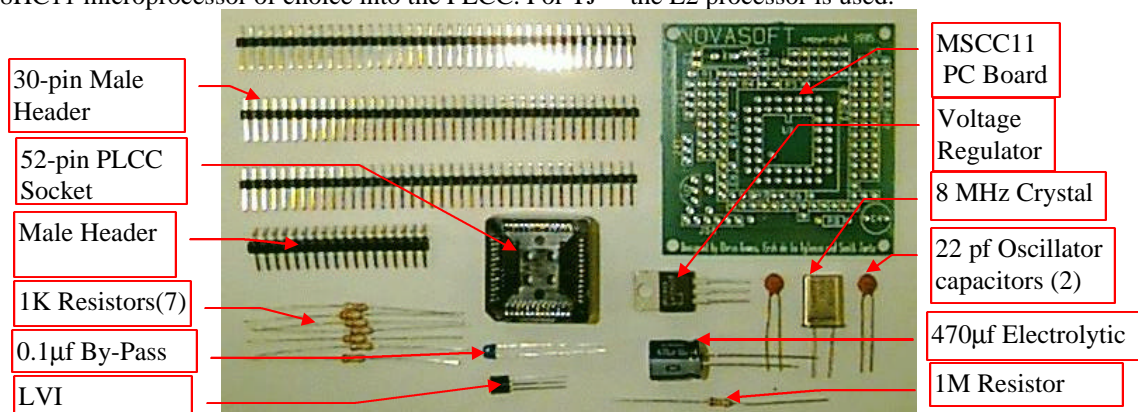
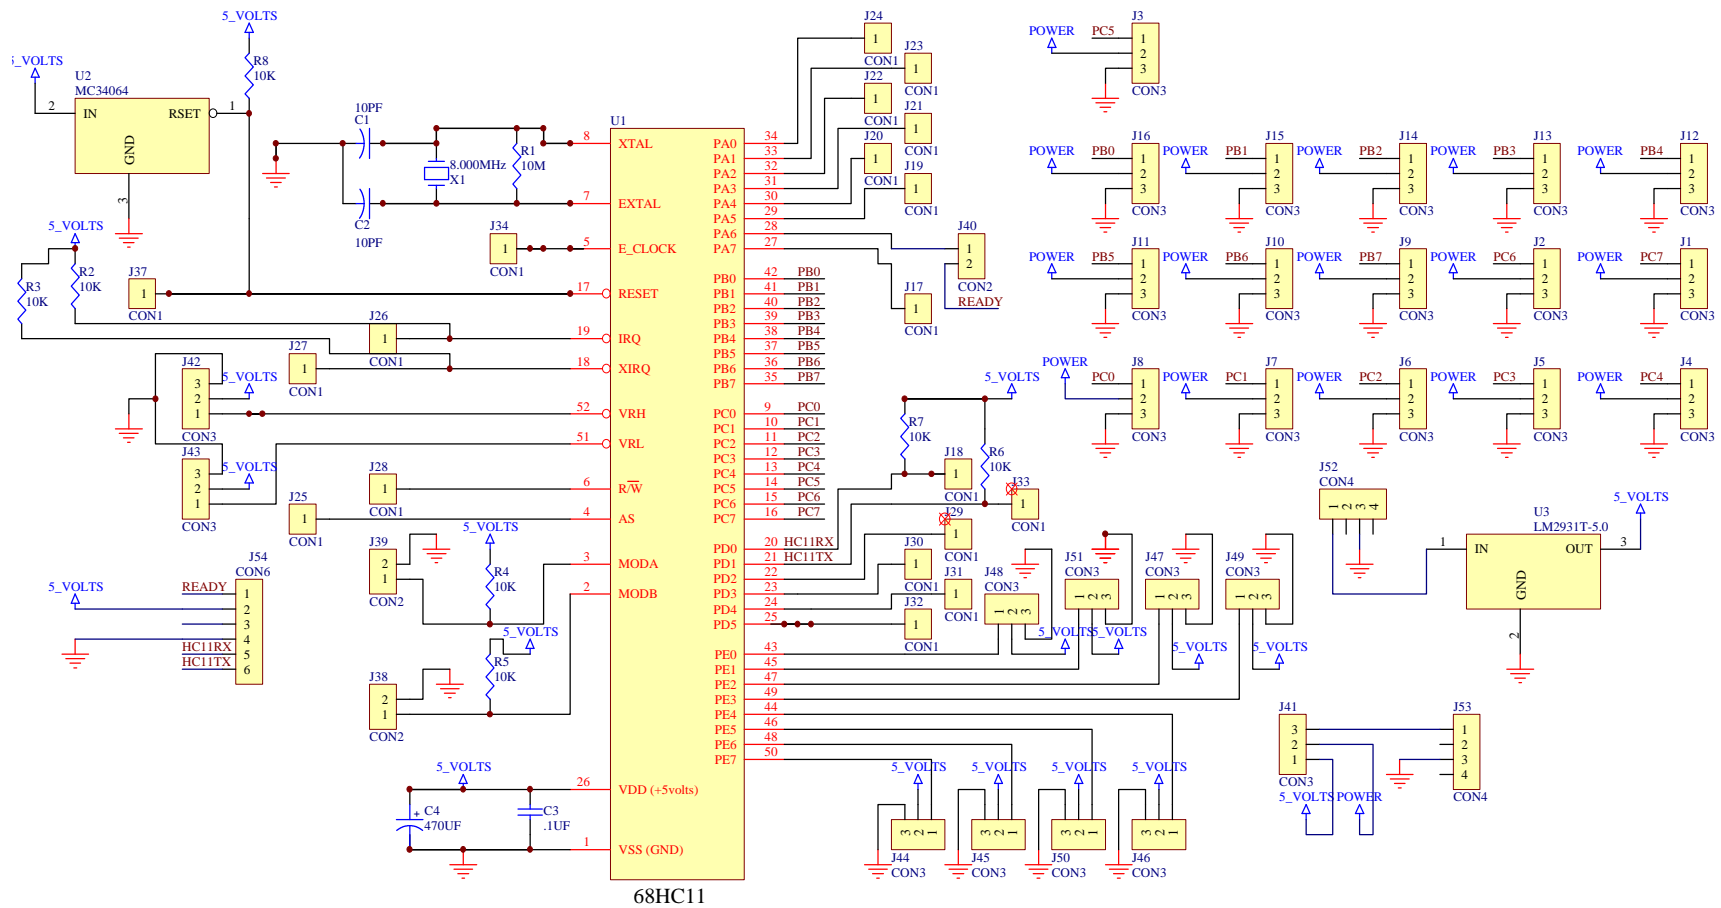
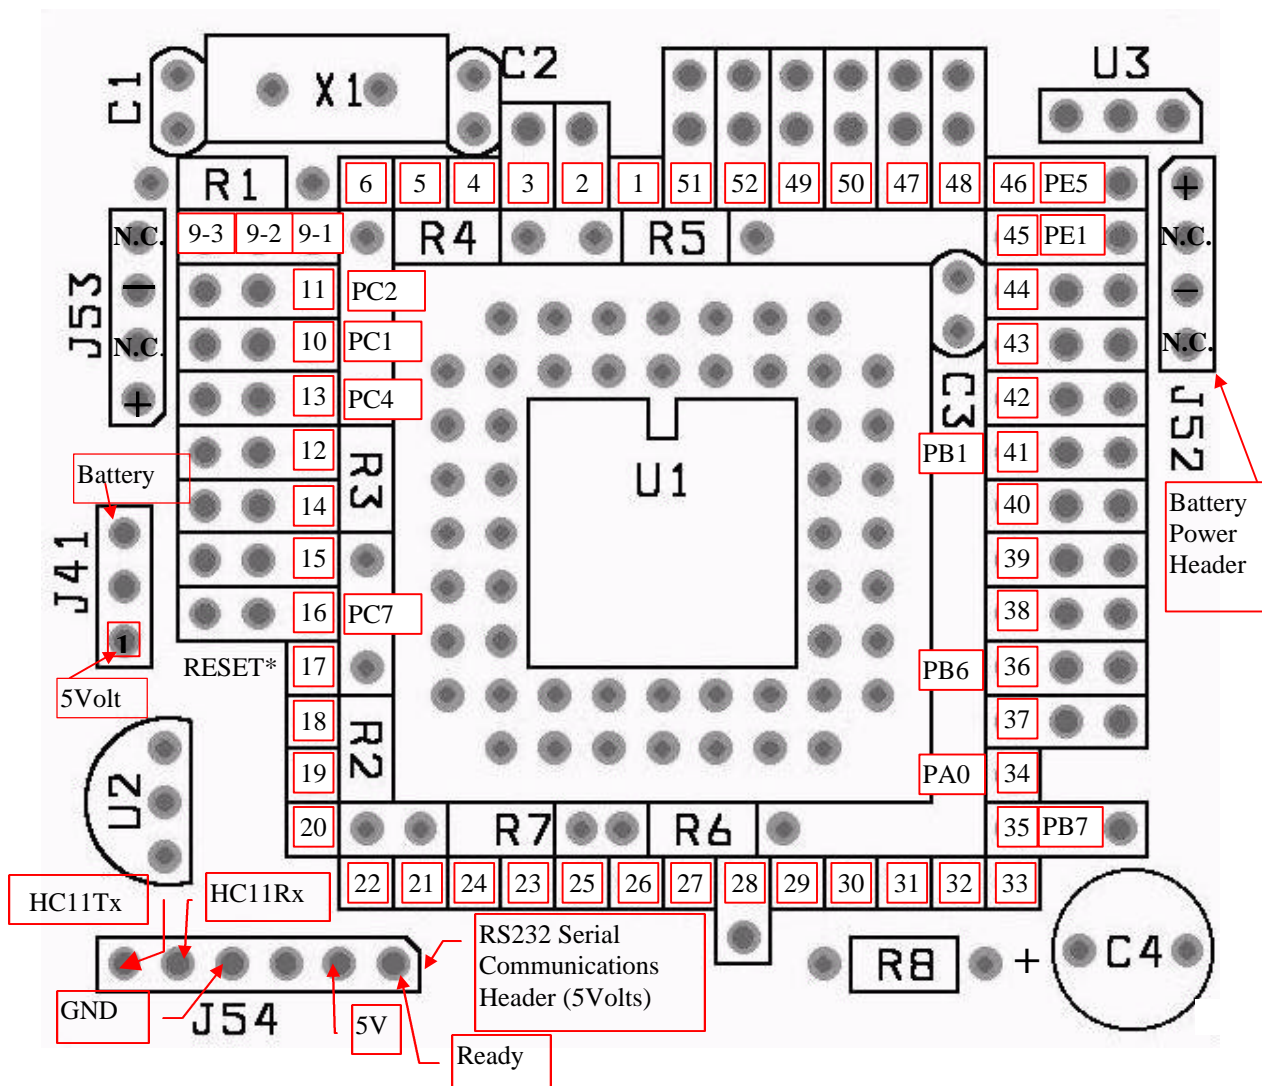

Figure 1 The MSCC11 parts inventory: 3 30-pin male headers in the upper right.
Figure 4 Schematic of the MSCC11.
Figure 5 Layout of the MSCC11E2. Pin numbers refer to MC68HC11 pins
Table 1 lists the MSCC11 parts and Figure 1 pictures those parts. The part labels in Table 1 correspond to the part labels in circuit schematic of Figure 4. The layout of the MSCC11 in Figure 5 indicates where to insert the various components. Figure 5 and Table 1 illustrate how to place the components for soldering. The user places the MC68HC11 microprocessor of choice into the PLCC. For TJ™ the E2 processor is used.
2. Solder in all the male headers you plan to use in your application. The male header positions surround the PLCC (Figure 5) and make the features of the MSCC11 available to external circuitry.
3. After R2-R7, C3 and the male headers are properly installed and soldered, insert the PLCC socket into the board with the rounded corner nearest the crystal X1 (Figure 5). Observe the notch for U1 and the location of pin 1 at the top of Figure 5. Tape the socket securely onto the PC board and make sure it is seated securely before soldering a corner pin on the underneath side. Now, keeping the socket firmly placed against the board, solder the diagonally opposite corner. The PLCC is now firmly in place. Examine your work carefully to insure correct installation. Now, solder the remaining pins of the socket.
4. Mount the discrete circuit components, C1, C2, X1, R1, R8, listed in Table 1, according to the layout shown in Figure 5. Insert the leads from the top of the board into the appropriate holes. Bend the leads towards each other to secure the part snugly against the top of the board. Solder the leads to the pads underneath the board and clip the leads.
5. Mount the electrolytic capacitor C4. The positive pole of C4 must be inserted into the hole nearest to R8 (Figure 5). Some polarized capacitors may have markings indicating the negative side. Make sure you understand the markings on the capacitor before soldering it on the board. Improperly soldered electrolytic capacitors can rupture with applied voltage.
6. U2 must be mounted with the flat side pointing in the direction shown in Figure 5. The metal tab side of U3 should be facing J52.
In most configurations, you will want to add jumpers or switches to the MSCC11 (refer to Figure 5):